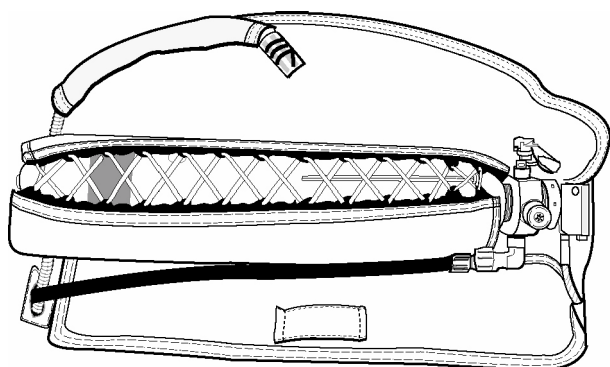

Figure 3. Lacing O2 Bottle
d. Position and install the oxygen cylinder in the lower compartment of the harness container assembly (Figure 3).
e. Ensure oxygen gage can be visually inspected through oxygen view port. (QA)
surgeon's knot, followed by a square knot, followed by an overhand knot. Cut off excess cord 3 inches from overhand knot, using bodkin stow excess under lacing (Figure 3). (QA)